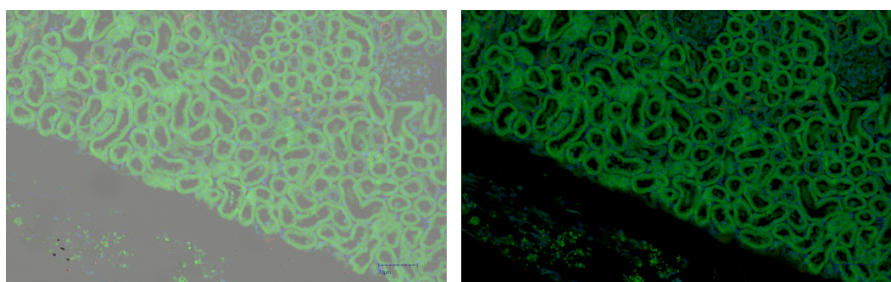

Figure 5.12: Select white (left) and black (right) as pseudo color for brightfield image
- If **white** is selected, a original image will be merged to the multi-channel image (see Fig. 5.12 left).
- If **black** is selected, the multi-channel image will exclude the image from the selected channel (see Fig. 5.12 right).